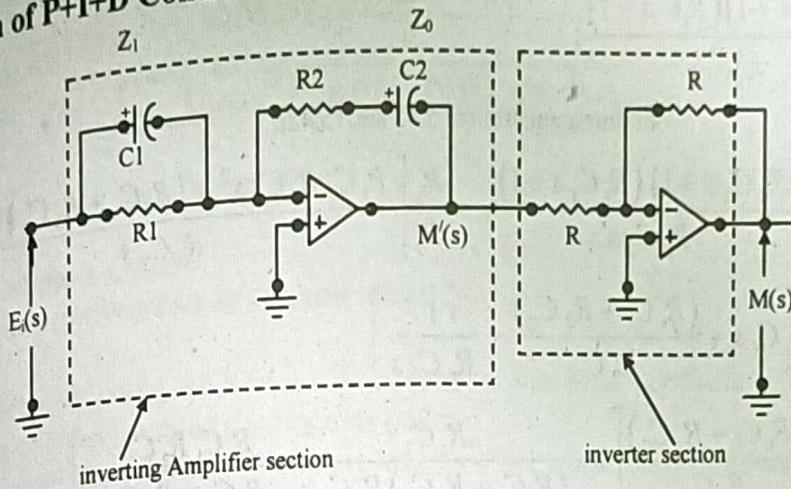

Fig. 3 Electronic circuit of a PID controller
Transfer function for the amplifier section(Fig.3) is given by
T.F. for inverter section (Fig. 3) is given by